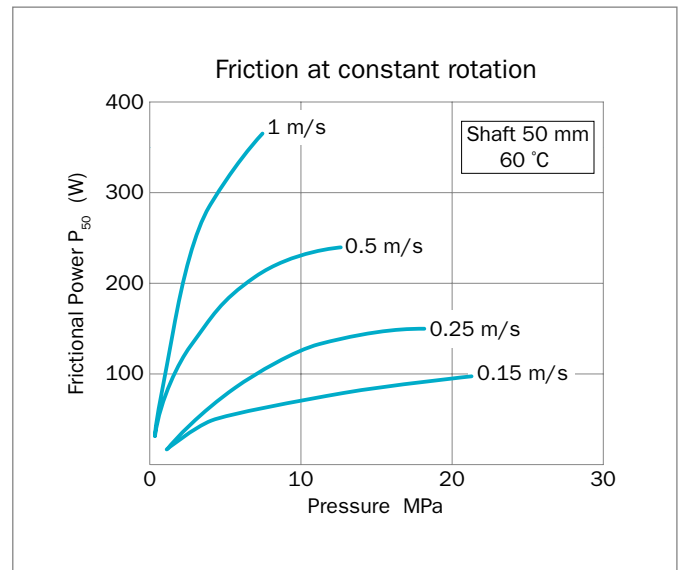

Figure 126: Frictional power for Turcon® Roto Glyd Ring®
Guide values for the frictional power (P) can be determined from the graph in Figure 126. They are shown as a function of the sliding speed and operating pressure for a shaft diameter of 50 mm / 1.968 inch with an oil temperature of +60 °C. At higher temperatures, these application limits must be reduced.